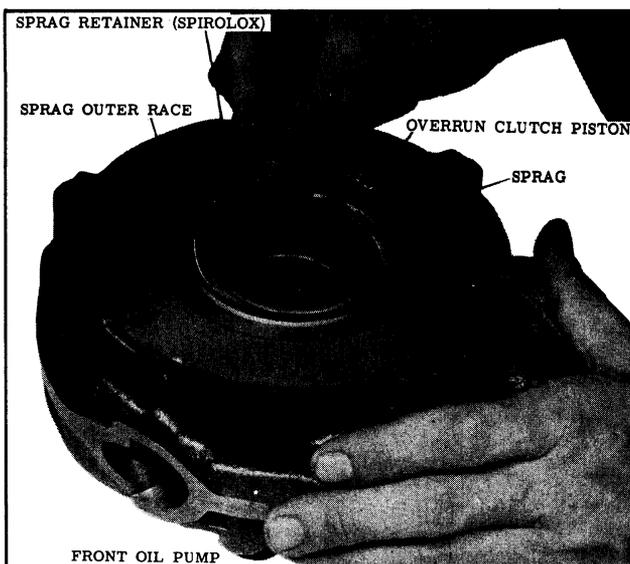

Fig. 3-99 Removing Spirolox Ring
8. Remove the front sprag inner race if it remained in the pump during disassembly, then remove the Spirolox retaining ring from the outer race. (See Fig. 3-99)